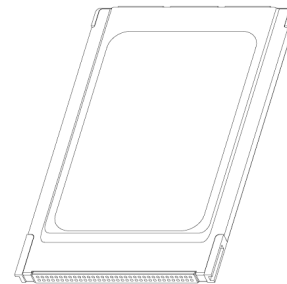

FIGURE 6:
- CarveWright Memory Card (Figure 6)